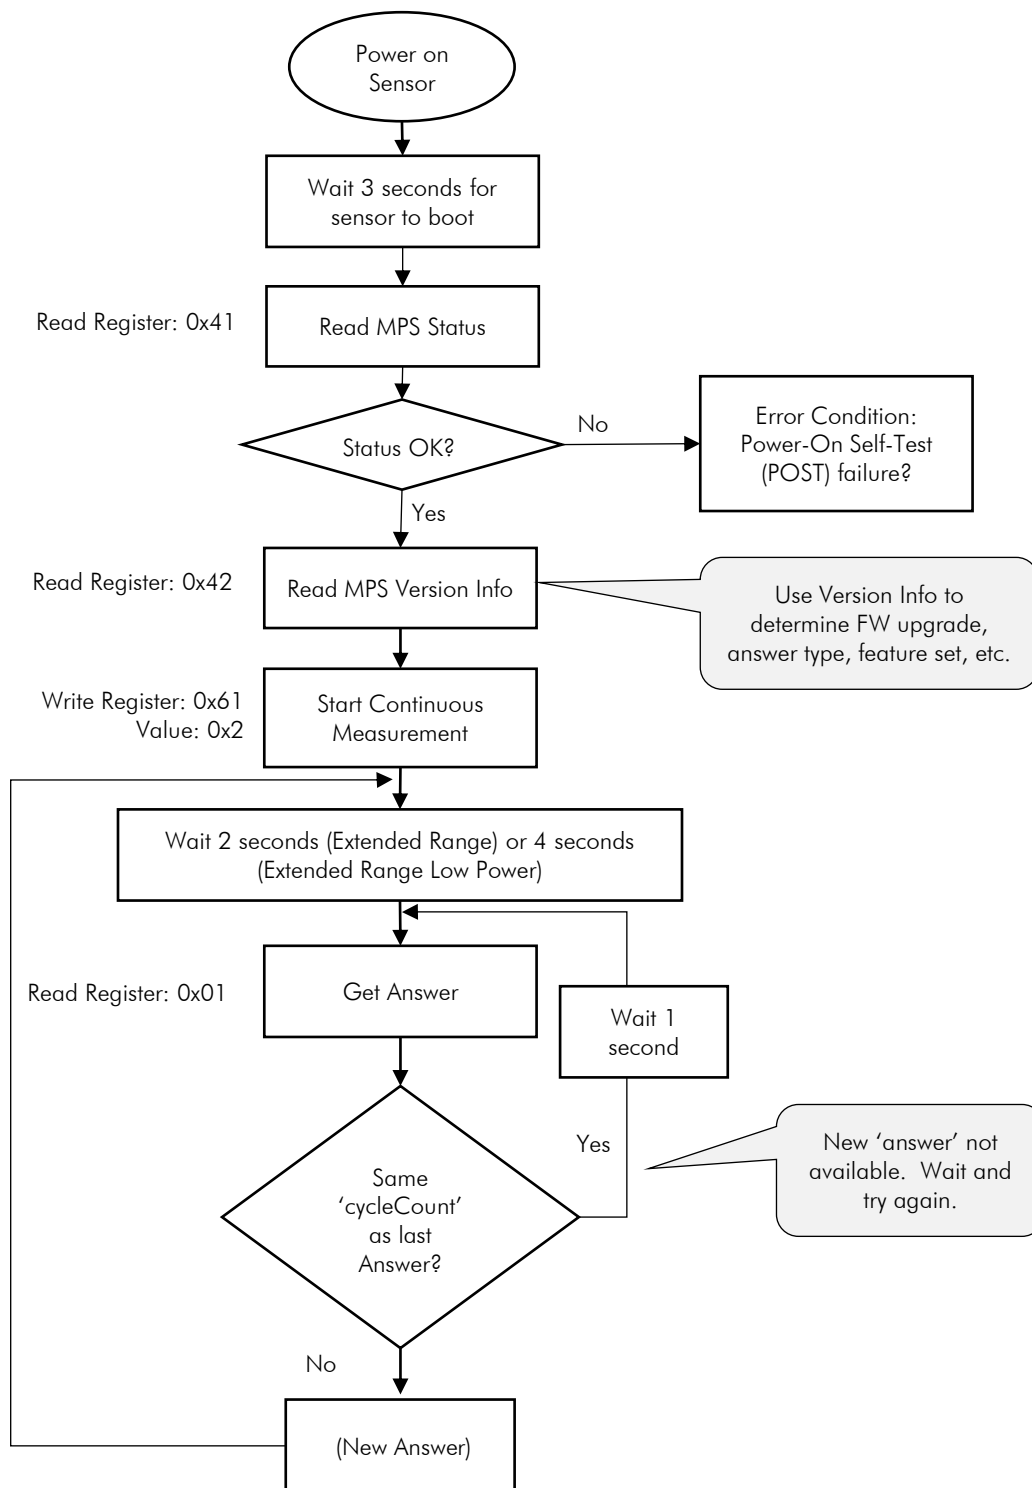

Figure 3: Startup and Measurement Sequence
Figure 3 describes the recommended steps after powering on the sensor plus the measurement sequence for getting answer data. The major steps consist of the following:
- Repeat process to get answer at the rate shown in Figure 3.